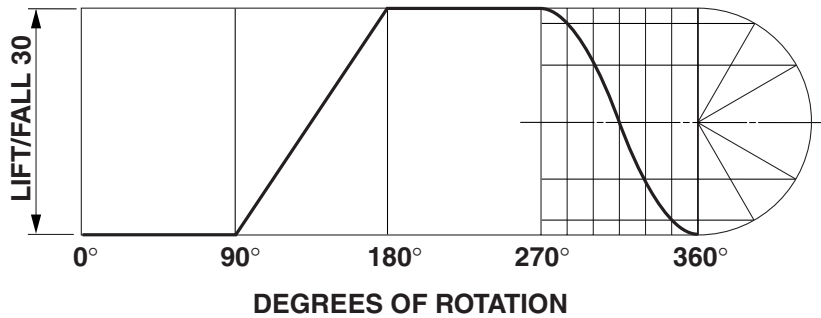

Fig. 6
- 6 Fig. 6 is a displacement diagram for a radial plate cam with an offset follower.